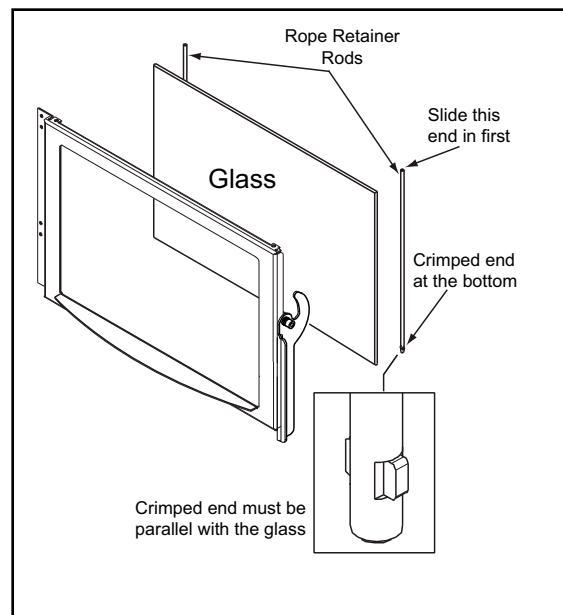

Figure 33.2
- d. Slide the retainer rod into the top hole first, and then line up the bottom crimped end with the hole in the door. The crimped end must be parallel with the glass in order to insert it into place. **Figure 33.2.**